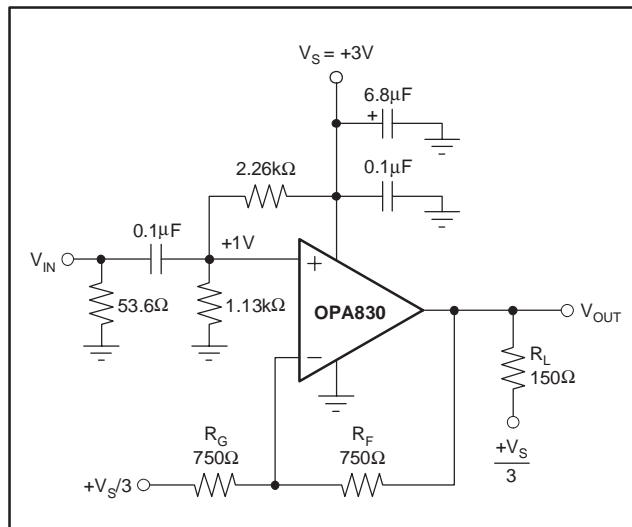
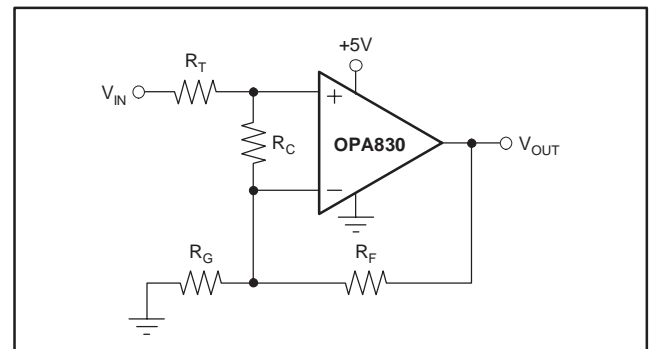

Figure 2. AC-Coupled, G = +2, +3V Single-Supply Specification and Test Circuit
Figure 7. Compensated Noninverting Amplifier
At $T_A = 25^\circ C$, $G = +2$, and $R_L = 150\Omega$ to $V_S/3$, unless otherwise noted (see Figure 2).
At $T_A = 25^\circ\text{C}$, $G = +2$, and $R_L = 150\Omega$ to $V_S/3$, unless otherwise noted (see Figure 2).
Figure 2 shows the AC-coupled, gain of +2 configuration used for the +3V Specifications and Typical Characteristic Curves. For test purposes, the input impedance is set to 50Ω with a resistor to ground. Voltage swings reported in
the Electrical Characteristics are taken directly at the input and output pins. For the circuit of Figure 2, the total effective load on the output at high frequencies is 150Ω || 1500Ω. The 1.13kΩ and 2.26kΩ resistors at the noninverting input provide the common-mode bias voltage. Their parallel combination equals the DC resistance at the inverting input (R_F), reducing the DC output offset due to input bias current.
Figure 7 shows a noninverting amplifier that reduces peaking at low gains. The resistor R_C compensates the OPA830 to have higher Noise Gain (NG), which reduces the AC response peaking (typically 5dB at $G = +1$ without R_C) without changing the DC gain. V_{IN} needs to be a low
Frequency response in a gain of +2 may be modified to achieve exceptional flatness simply by increasing the noise gain to 3. One way to do this, without affecting the +2 signal gain, is to add a 2.55kΩ resistor across the two inputs, as shown in Figure 7. A similar technique may be used to reduce peaking in unity-gain (voltage follower) applications. For example, by using a 750Ω feedback resistor along with a 750Ω resistor across the two op amp inputs, the voltage follower response will be similar to the gain of +2 response of Figure 2. Further reducing the value of the resistor across the op amp inputs will further dampen the frequency response due to increased noise gain. The OPA830 exhibits minimal bandwidth reduction going to single-supply (+5V) operation as compared with ±5V. This minimal reduction is because the internal bias control circuitry retains nearly constant quiescent current as the total supply voltage between the supply pins is changed.
The criterion for setting this R_S resistor is a maximum bandwidth, flat frequency response at the load. For a gain of +2, the frequency response at the output pin is already slightly peaked without the capacitive load, requiring relatively high values of R_S to flatten the response at the load. Increasing the noise gain will also reduce the peaking (see Figure 7).